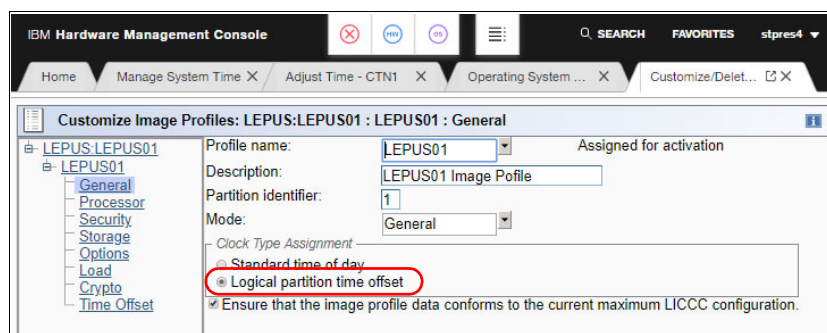

Figure 5-29 Customize Image Profiles: General
1. Open the image profile of the image to be modified. From the General tab, select **Logical partition time offset** from the Clock Type Assignment area (Figure 5-29).